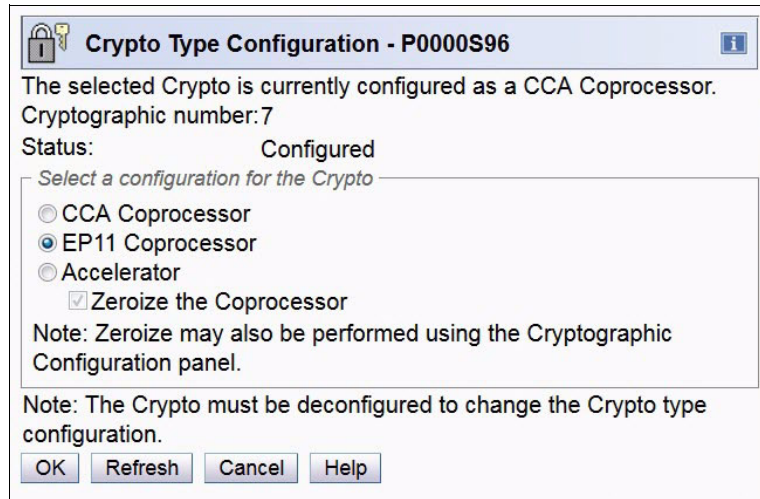

Figure 10-17 SE Crypto Type Configuration (CCA Coprocessor to EP11 Coprocessor)
4. Change the configuration for the cryptographic coprocessor adapter. Select **EP11 Coprocessor** (Figure 10-17), which by default, automatically selects the **Zeroize the coprocessor** option. Click **OK**.